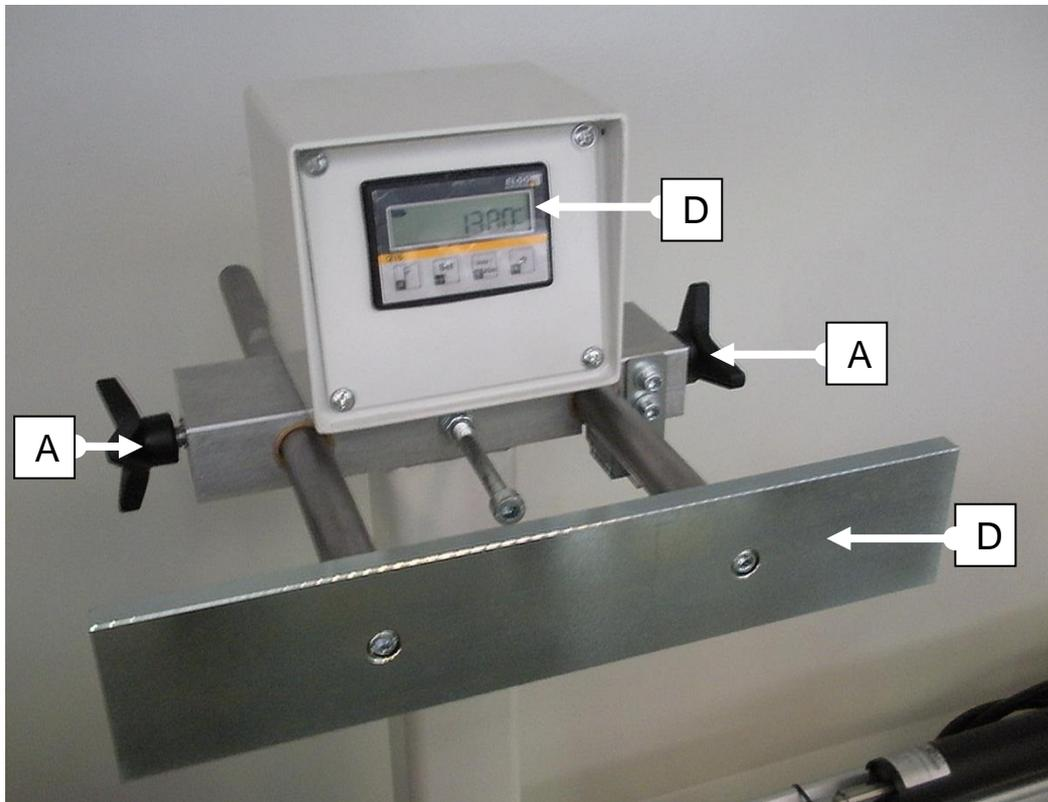

FIG.16
- Loosen handles A (Fig.16)
- Move end stop C (Fig.16) sliding it to the required position that can be read on display D (Fig.16)
- Lock handles A (Fig.16).